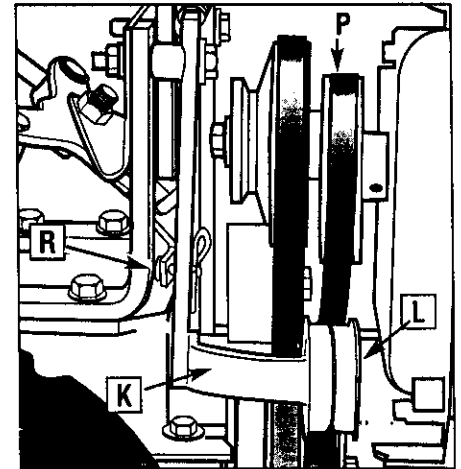
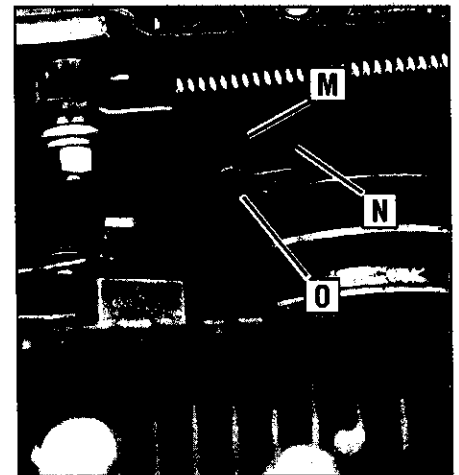

Figure 4-14 : Reverse idler arm (K) and reverse pulley (L).
Figure 4-15: While pushing reverse idler arm inward, stand at engine end and check position of guide mark (M) and guide pin (O).
2. Stand at the front of the tiller and use your left hand to push the reverse idler arm (K, Figure 4-14) inward as far as possible (the reverse idler pulley [L] is attached to the reverse idler arm). Hold the idler arm in this position and look at the position of the belt tension guide mark (M, Figure 4-15) that is stamped into the face of the reverse adjustable link (N, Figure 4-15).
• The belt tension is correct if the guide mark (M, Figure 4-15) is anywhere to the left of the guide pin (O), as viewed from the front of the unit (not the operator's position). If the belt tension is correct, reinstall the belt cover and secure it with the two nuts.
3. The reverse idler pulley (L, Figure 4-14) regulates the tension that is applied to the reverse drive belt (P). The following adjustment will allow the reverse idler pulley to apply more tension to a loose belt.
5. Slip the reverse belt (P, Figure 4-14) off the engine driven reverse (upper) pulley.
6. On the right side of the unit (as viewed from operator's position) remove the hairpin cotter from the clevis pin (R, Figure 4-14) that connects the reverse idler arm (K) to the reverse adjustable link. Push inward on the reverse idler arm (K) and remove the clevis pin (R).
8. Reinstall the reverse belt (P, Figure 4-14) on the reverse (upper) pulley, making sure the belt is located to the inside of the reverse idler pulley (L, Figure 4-14).